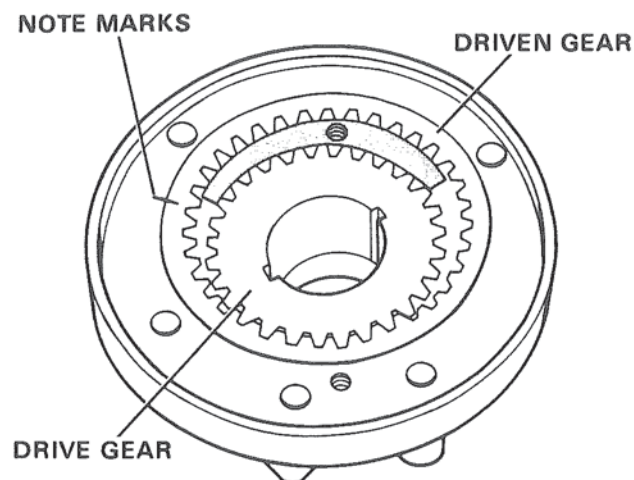

Figure 81. Installing Pump Driven Gear.
4. After seal is assembled, lubricate the pump housing with the proper transmission oil and place as shown in Figure 81. Install lubricated driven gear with identification mark.